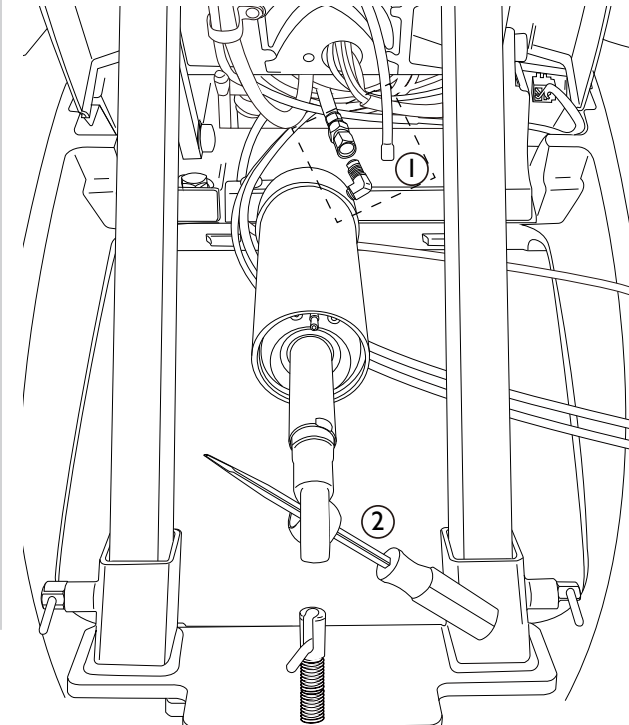
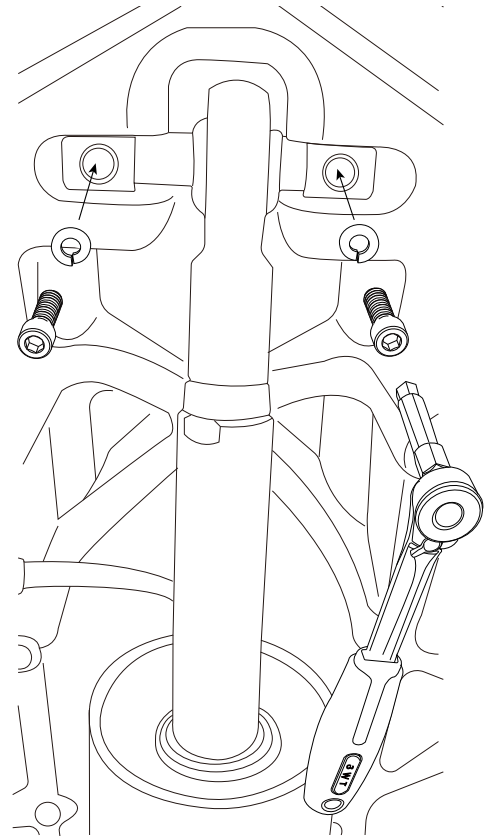

Figure 15. Orienting the hydraulic piston with the screwdriver
Figure 14. Reconnecting two upper bolts
2 With the vent line and hydraulic hose disconnected (see Figure 15, item 1), replace the upper pin and install the two upper bolts with washers (see Figure 14).
- This will require you to depress/extend the hydraulic piston. Either the upper pin or a screwdriver can be used to help move the hydraulic piston into the correct orientation (see Figure 15, item 2).